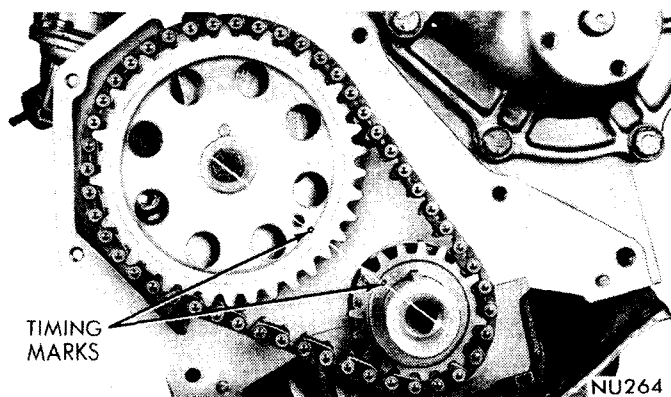

Fig. 19—Alignment of Timing Marks
(7) Install camshaft sprocket and timing chain.
(8) Line up timing marks on the sprockets with the centerline of crankshaft and camshaft (Fig. 19).
(9) Tighten camshaft sprocket lock bolt to 35 foot-pounds.